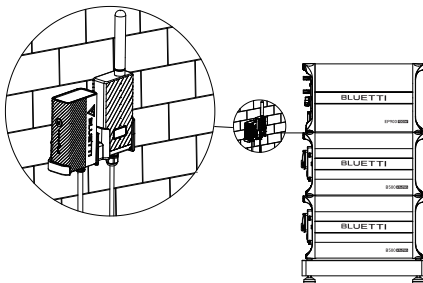
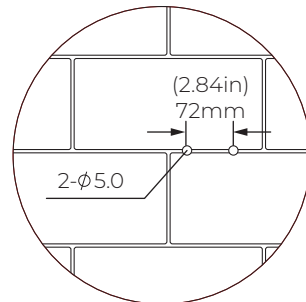

Fig. 5-2-1
Fig. 5-2-2
Step 1: Drill 2 pilot holes in the wall with an electric drill (0.197in / 5mm). Please refer to the drill position and hole size shown in Fig. 5-2-1 and Fig. 5-2-2. The depth of hole is 1.02in (26mm).